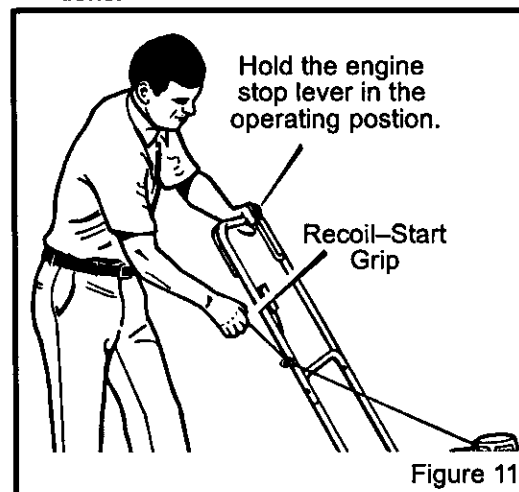

Figure 11
6. Stand behind the mower (Figure 11). Use one hand to hold the engine stop lever in the operating position as shown. Use the other hand to hold the **recoil-start grip**.